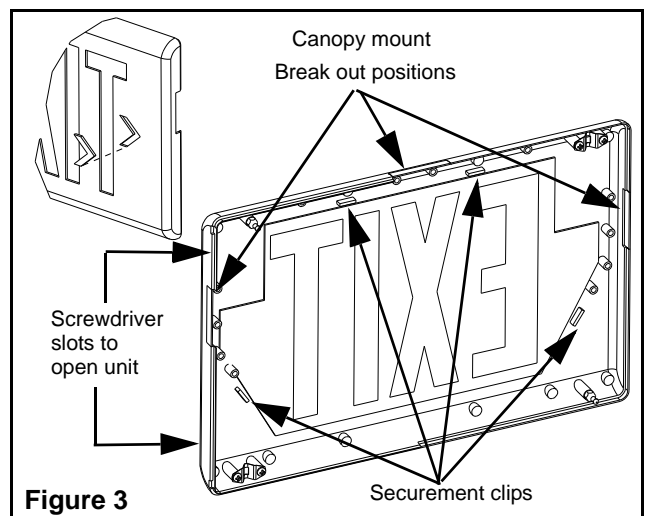

Figure 3
3. Separate the housing assembly, back cover and exit door, using a screwdriver (see fig. 3).
- d. To knock out the chevrons, remove the diffuser panel. Support the door around the chevrons with two blocks of wood. Strike arrow knockouts from the inside with a hammer and screwdriver. Re-install the diffuser panel using the securement clips (see fig. 3).
- e. Determine which side of the exit frame will be used for mounting. Break out the appropriate rectangular section at the canopy mounting position (see fig. 3). Make sure edges are free from burrs.